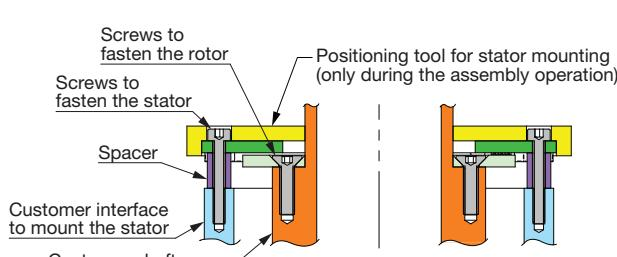

Fig. 4 - Case 1-2 (using positioning tool)
- To position the stator, we recommend using a specific positioning tool which reference the position according to the shaft, as shown in the illustration below (Fig. 4). The side of the stator with the electronic components should face the rotor. Then, fasten the stator to the customer interface using the recommended screws: M2 according to ISO 4762 (A4 stainless steel with recommended torque = $0.3 \text{ Nm} \pm 10\%$)